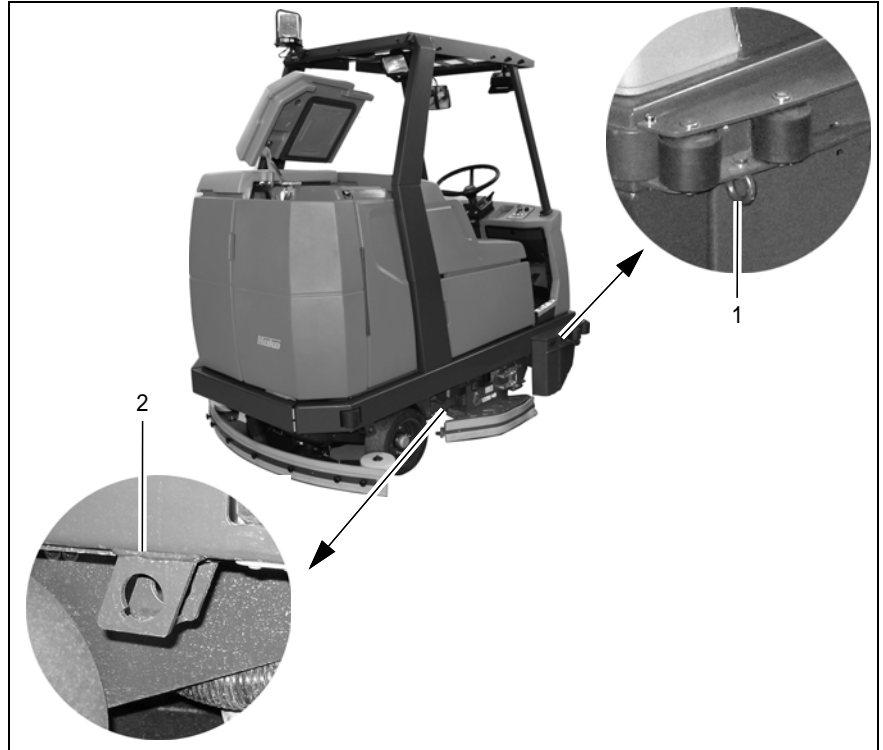

Fig. 37
- The vehicle is provided with attachment points (lashing eyes) on the left and right-hand side to do this: at the rear of the frame and on the sides at the height of the entry area (Fig. 37/1+2).